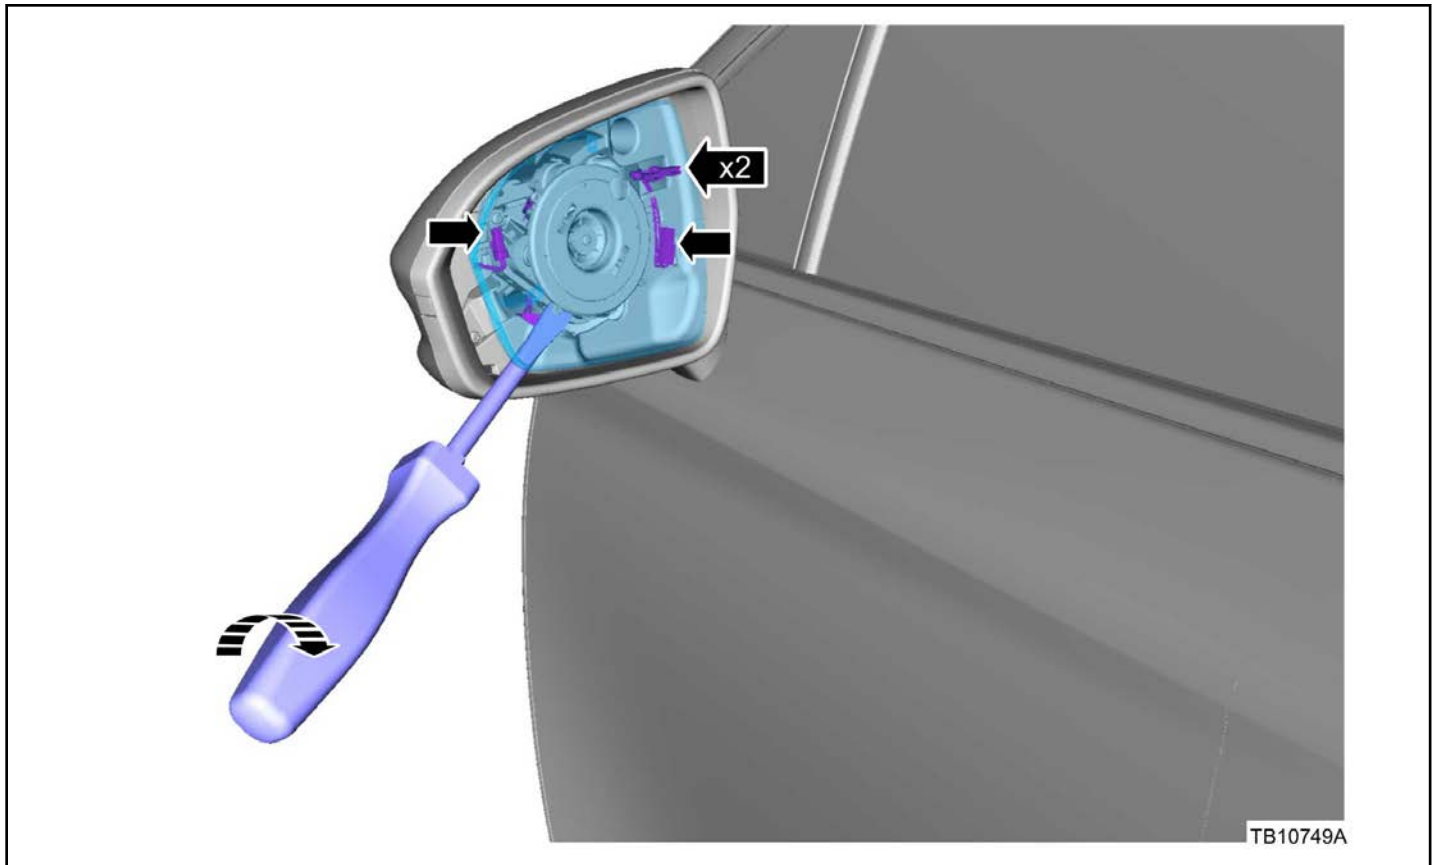

Figure 2 - Article 16-0058
2. Release the mirror glass and disconnect the electrical connectors. Use of a non-marring plastic trim tool is recommended to release the mirror glass. (Figure 2)